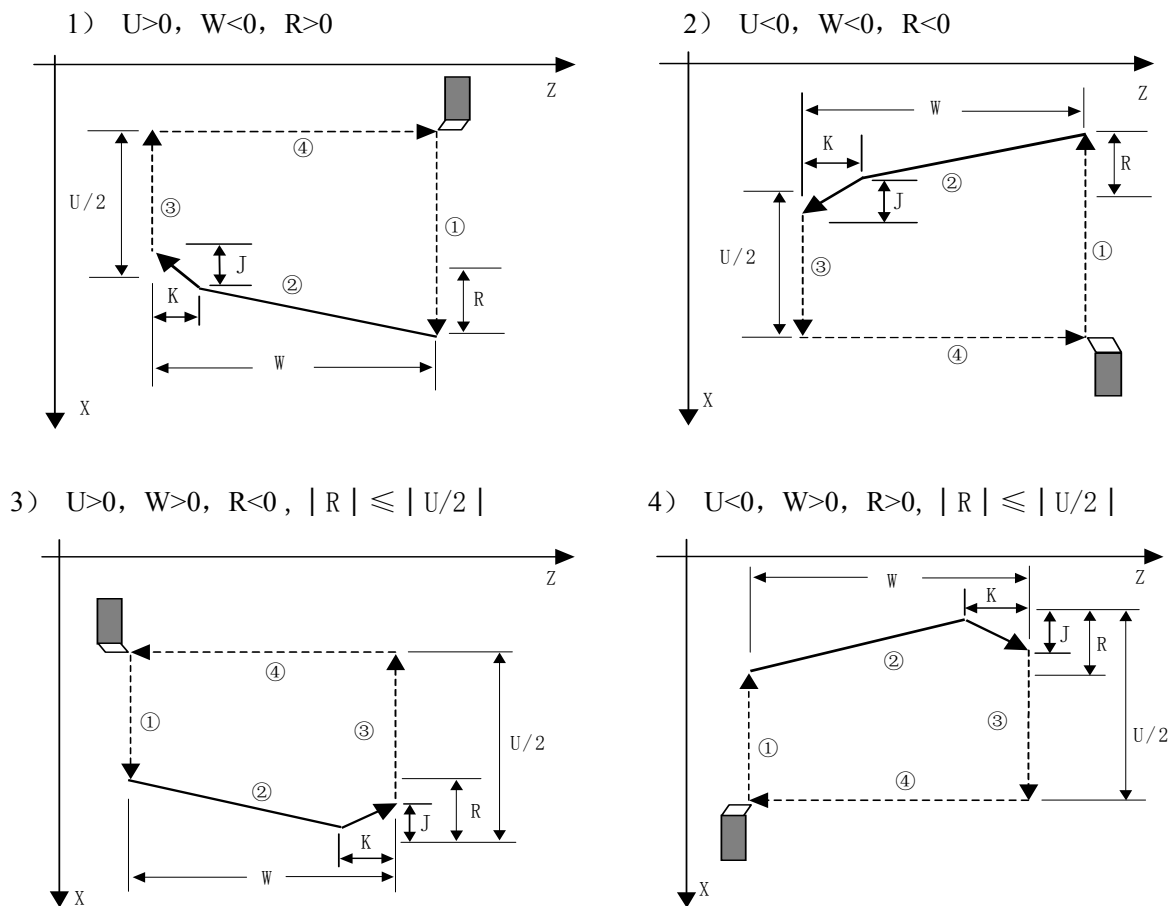

Fig.3-46
- The direction of A→C→D→E is defined by signs of U,W, and the direction of C→D is defined by the sign of R(i). There are four kinds of sign composition of U, W corresponding to four kinds of machining path as Fig. 3-46.